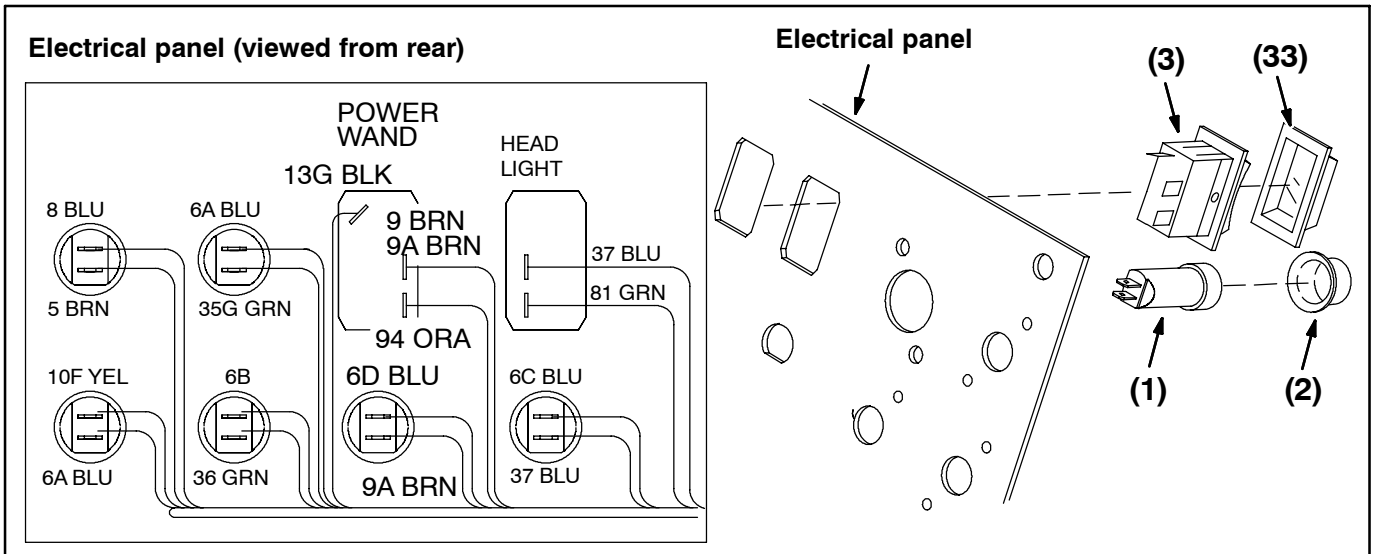

FIG. 1-Switch And Circuit Breaker
1. Install the switch (3), switch boot (33), circuit breaker (1), and circuit breaker boot (2) into the electrical panel. Refer to Fig. 1.
4. Close the electrical panel. Refer to Fig. 1.